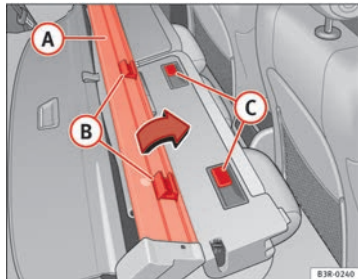

Fig. 122 Installing luggage compartment cover / net partition
- Fit the net partition **(A)** on the backrest so that the retainers **(B)** are located next to the retaining rails **(C)** ⇒ Fig. 122.